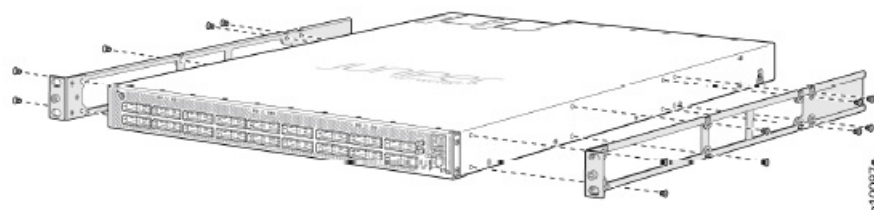

Figure 2: Attach the Front Mounting Rails to the PTX10001-36MR
3. Align the holes in the mounting rail with the screw holes on the side of the chassis. See Figure 2 on page 6 to see the proper alignment for the PTX10001-36MR.